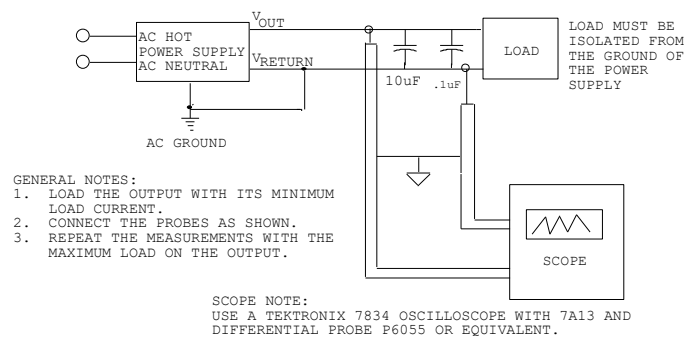

Figure 7. Differential Noise Test Setup
The test set-up shall be following Figure 7.
**NOTE:** Load must be isolated from the safety ground to Figure 7.